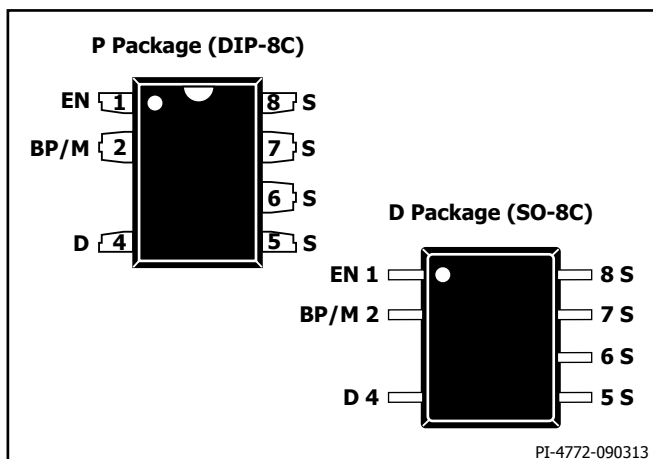

Figure 50. TinySwitch-LT IC Package.
3. Packages: P: DIP-8C; SMD-8C (Figure 50). See Part Ordering Information.